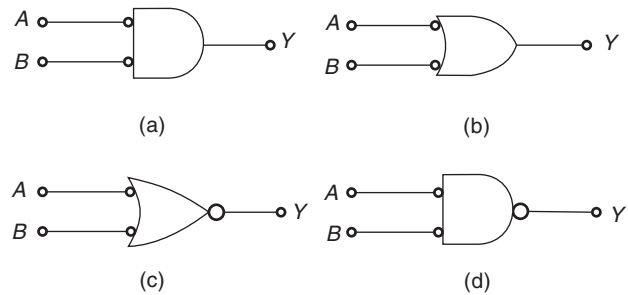

Fig. 4.98
41. Find the relationship between the inputs and the outputs for each of the gates shown in Fig. 4.98. Name the operation performed in each case.